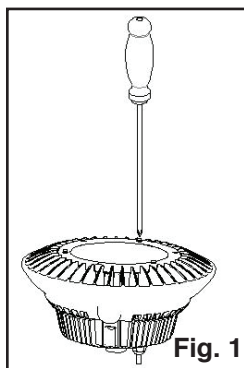

Fig. 1
1. To install the reflector, unscrew three alternate screws by 5mm, leaving the other three screws untouched, Please refer to Figure 1.